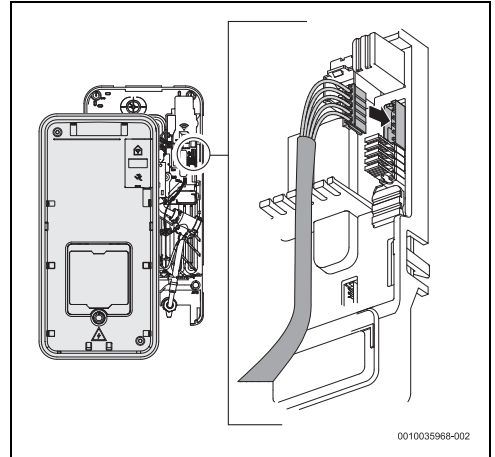

Fig. 52
- Check if the cable from the operating panel is correctly connected to the electronic board (→ Fig. 52).